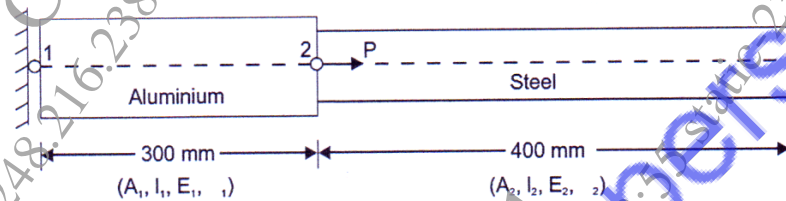

Figure 3
- Q2) a) An axial load P=400 kN is applied on a stepped steel bar as shown Figure 3. The temperature rise of 30 °C. Given: [12]